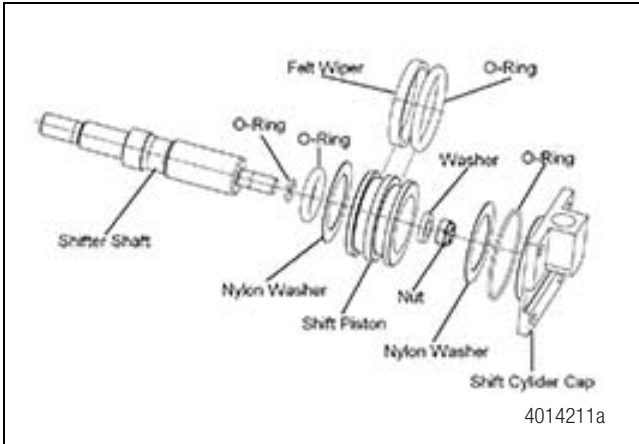

Figure 6.22
14. Place a nylon washer on to the shift-fork assembly. Soak the felt strip in gear oil and install it in the inner groove of the piston. Slip an O-ring around the outer groove before sliding it onto the nylon washer. The end of the piston with the counterbore should be facing outward. Place a washer on top of the piston and screw in a locknut using loctite 272 or equal. Place another nylon washer above the piston. Put an O-ring onto the shift cylinder cap. Figure 6.22.